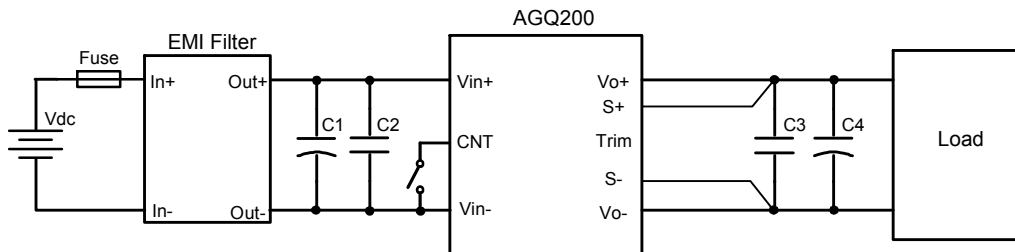

Figure 11 Typical application
Figure 5 Dynamic response for 25% load step (25% ~ 50% ~ 25%) and 0.1A/ μ s slew rate, (2ms/div), see Figure 11 for test configuration; CH1-output voltage (50mV/div); CH2-output current (10A/div)
Figure 6 Dynamic response for 25% load step (25% ~ 50% ~ 25%) and 1A/ μ s slew rate, (2ms/div), see Figure 11 for test configuration; CH1-output voltage (100mV/div); CH2-output current (10A/div)
- C1 ~ C4: See Figure 11